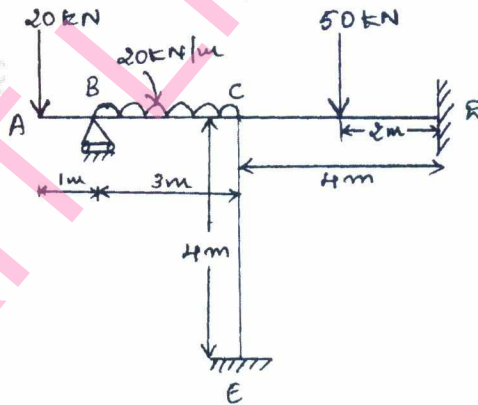

Fig. Q2
- 2 Analyse the portal frame shown in Fig. Q2 using slope deflection method. Sketch BMD.